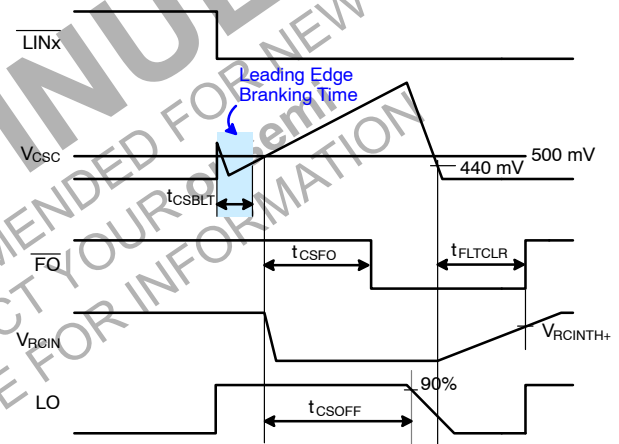

Figure 43. RCIN and Fault-Clear Waveform Definition
Figure 43 shows the waveform definitions of RCIN, $\overline{FO}$, and the low-side driver; which uses a soft turn-off method when an under-voltage condition of the low-side gate driver supply voltage (V_{DD}) or the current-sense pin (CS) recognizes a fault. If a fault condition occurs, the $\overline{FO}$ Pin is internally pulled to COM and all outputs (HO1,2,3 and LO1,2,3) of the gate driver are turned off. Low-side outputs decline linearly by the internal sink current source ($I_{SOFT} = 40 \text{ mA}$) for soft turn-off, as shown in Figure 43.